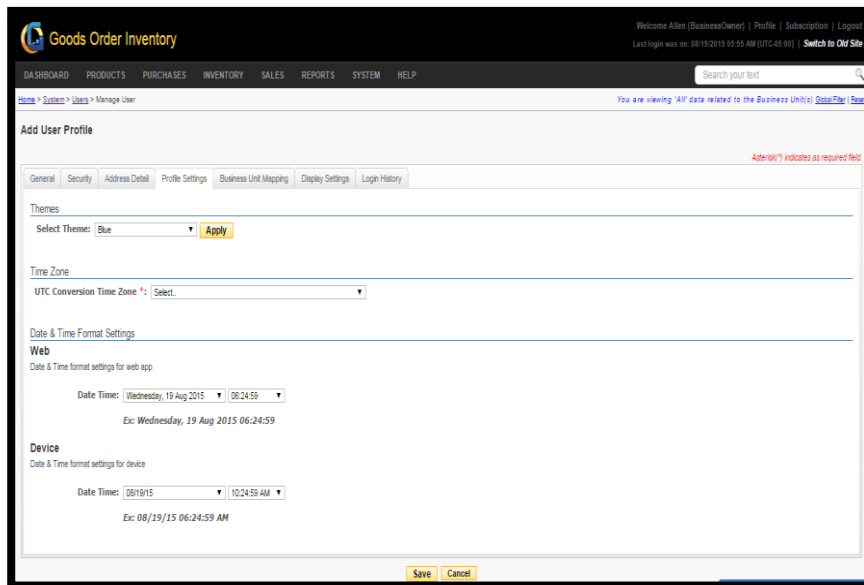

FIGURE 3.7
Step 7: After filling the Address details, you have to provide the configuration related to the user profile, as shown in (Figure 3.7).